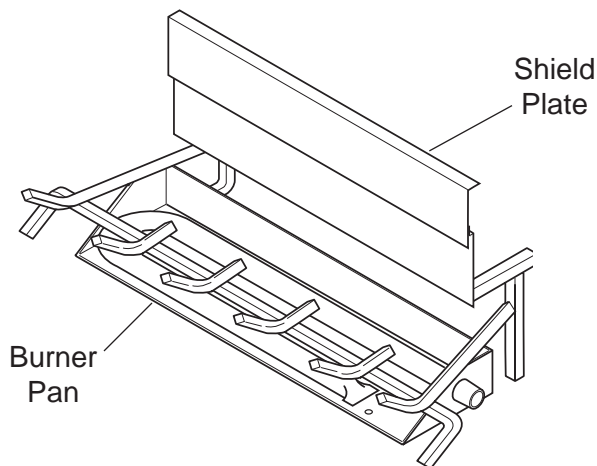

Figure 25 - Sliding Shield Plate Down Back of Burner Pan
1. Slide shield plate down back of burner pan. *See Figure 25.*